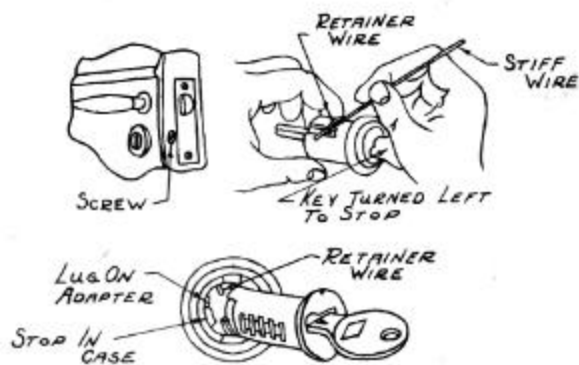

Figure 14--Door Safety Lock Details
1. Loosen the set screw in the edge of the door (see Figure 14).
1. Put the stop in the case and the lug on the adapter in the position shown in Figure 14.